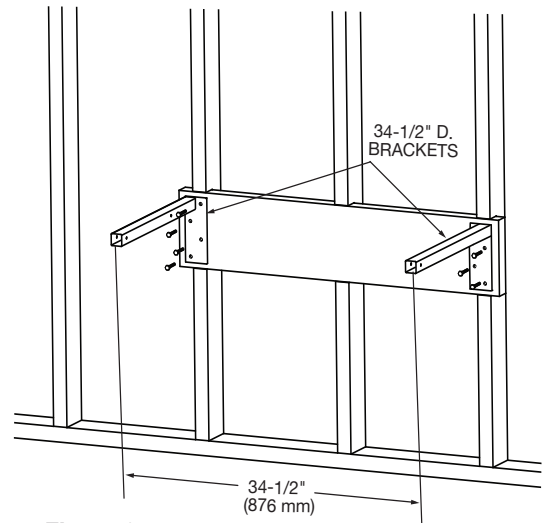

Figure 2.
- Brackets must be spaced at 34-1/2" apart on the 2x8 horizontal brace and level. Mark these hole locations on the 2x8. **Figure 2.**